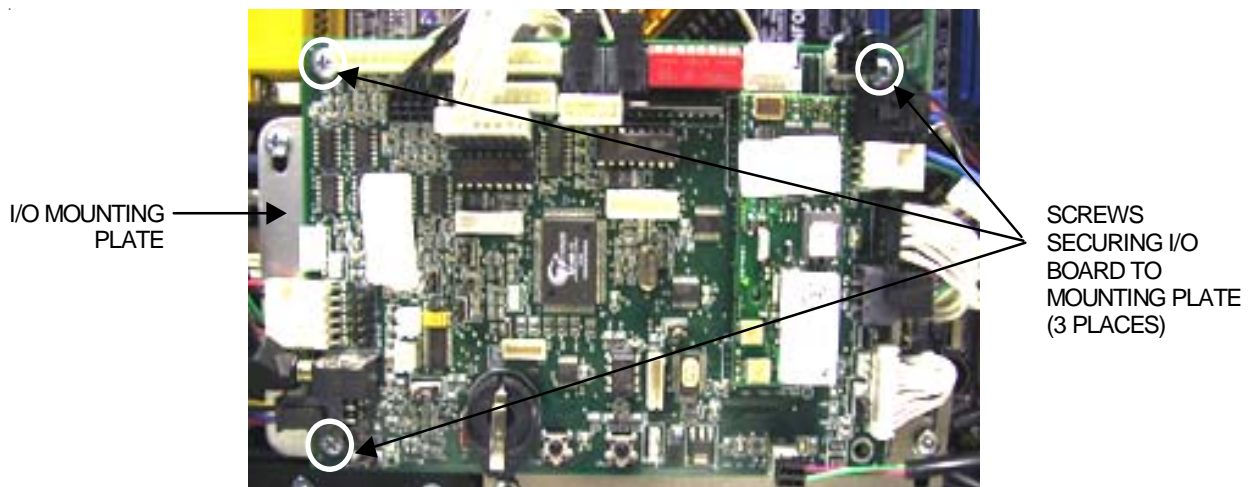

FIGURE 1 - I/O BOARD AND MOUNTING PLATE
3. Remove the 3 screws securing the I/O board to the I/O mounting plate. Remove all connections from the I/O board, taking note of their positions, then remove the board. See Figure 1.